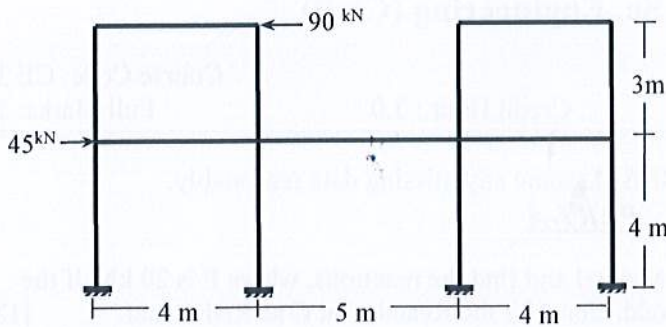

Fig.5
5. Analyze the frame as shown in **Fig.5**, using Portal Method to draw the axial force and bending moment diagram of columns of the frame [10]